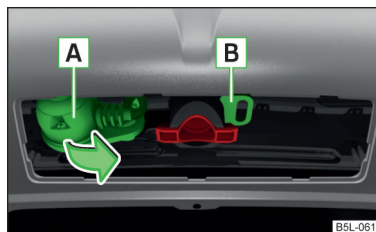

Fig. 134
- Swing the 13-pin socket in the direction of arrow **A** » Fig. 134.
- Swivel the 13-pin power socket **A** » Fig. 134 back in in the opposite direction to the arrow.
The purpose of the safety eyelet **B** » Fig. 134 is to attach the breakaway cable of the trailer.